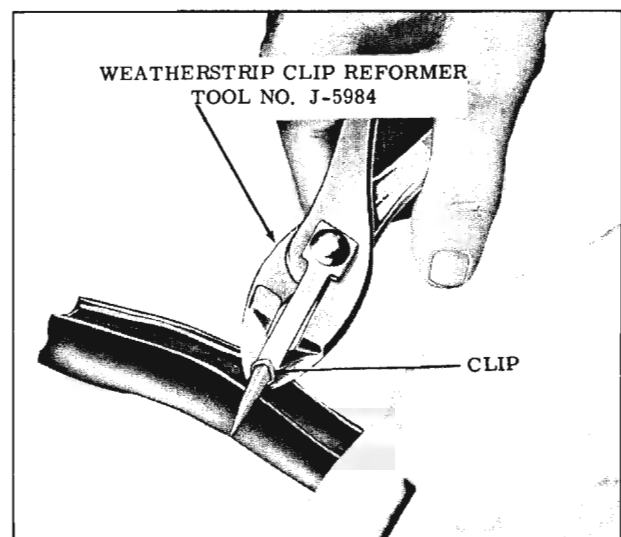

Fig. 16-229 Reforming Weatherstrip Clips With Tool J-5984
2. Check weatherstrip clips for proper contour and reform if necessary using Tool J-5984. (Fig. 16-229)